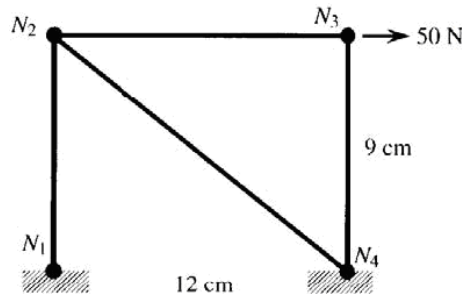

Figure 2
2. a) For a two-dimensional truss structure, as shown in the figure 2, determine displacements of the nodes and normal stresses developed in the members using FE. Use  $E = 30 \times 10^6 \text{ N/cm}^2$  and a diameter of the circular cross-section of 0.25 cm. (15)